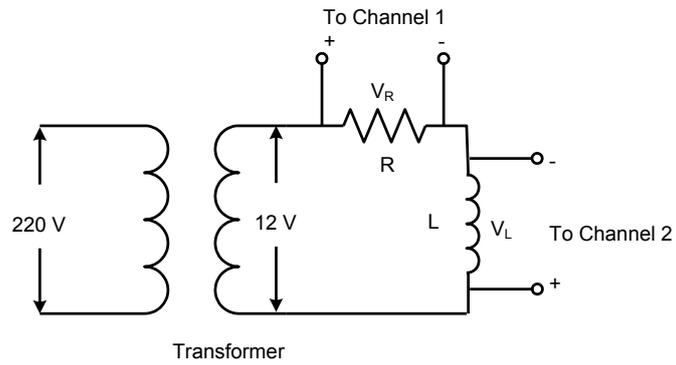

Figure 3: Experimental setup for R-L circuit
1. Make the circuit connection for the R-L circuit, (Fig.3). Connect the oscilloscope probes properly as shown.
2. What will happen if the oscilloscope probes of Fig.3 are connected as shown in Fig.6? Explain.
- To correct the circuit of Fig. 6, the probes are connected as shown in Fig.3 (with the ground probes at the same node). In this case, we do not obtain the actual waveshapes. Why? What measure should be taken in the oscilloscope to obtain the actual wave shapes?